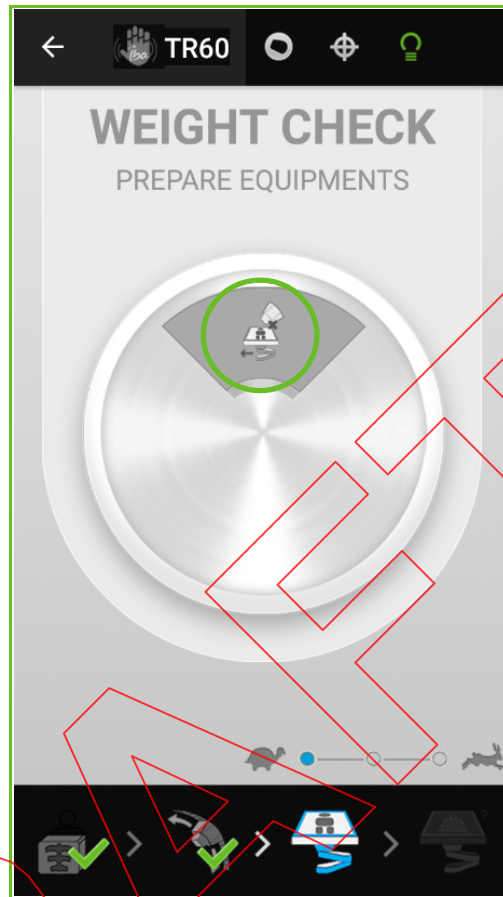

Figure 46-10. Automatic weight check - Move PPS
- c. Move the PPS to [0,0,0,0,0,0] position by pressing the **Move PPS** (  ) icon (Figure 46-10).